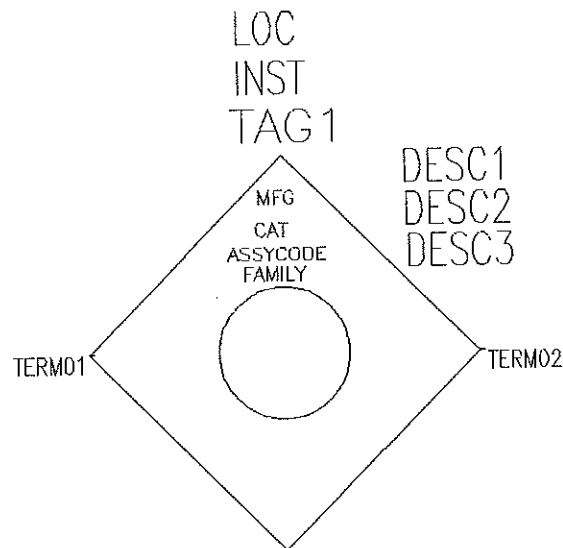

Figure 13-40 TERM01 and TERM02 attributes inserted into the symbol
24. Enter **9,30** at the Command prompt and press ENTER; the TERM02 is inserted into the symbol. Figure 13-40 shows the TERM01 and TERM02 attributes inserted into the symbol.